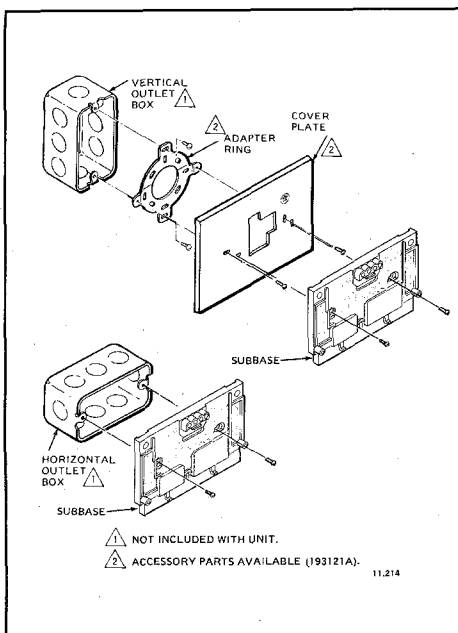

Fig. 1—Installation of subbase on outlet box.
1. If you must mount the subbase on a vertical outlet box, order 193121A Adapter Assembly (Fig. 1). The assembly includes an adapter ring, two screws, and a cover plate to cover marks on the wall. Install the ring and cover plate on the vertical outlet box.